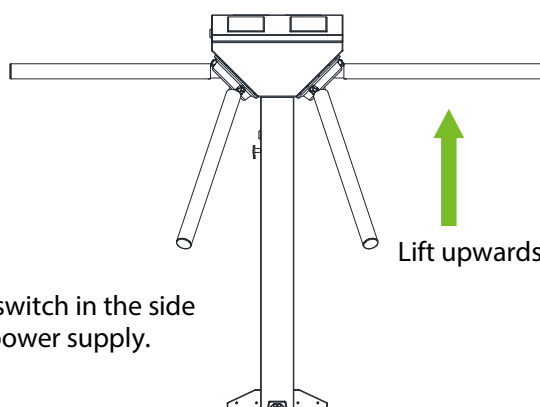

Figure 2-4
3. Lift the arms manually, as shown in Figure 2-4.